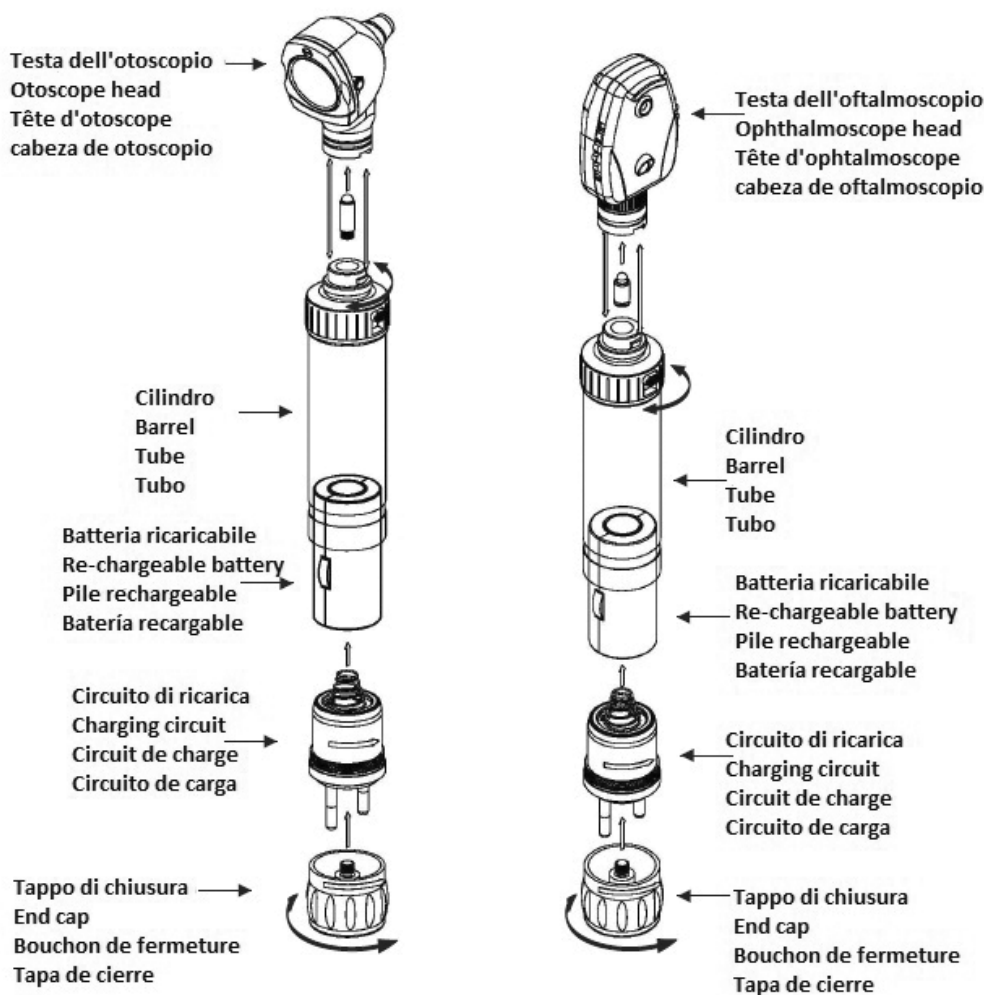

Fig.5
Unscrew the end cap by rotating it to anti-clockwise direction. Open the plug pins case (transformer case) located at the bottom of handle by rotating it in anticlockwise direction. Insert rechargeable battery in the handle. Now close the plug pins case by rotating it in clockwise direction and then screwed the end cap by rotating it in clock wise direction as shown in fig.5. Handle is ready for use.
5. Before using it for diagnosis purpose, it is necessary to insert the batteries into the handle compartment as illustrated in assembling (fig.5).